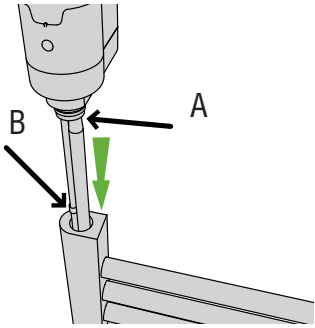

Fig. 5
3. Insert the tip of ATLANTIS heating element into the bottom hole of the towel rail as shown and make sure to select the female ½" GAS thread of the towel rail in the opposite vertical tube to where the 3 Bar valve is installed (Fig. 5).